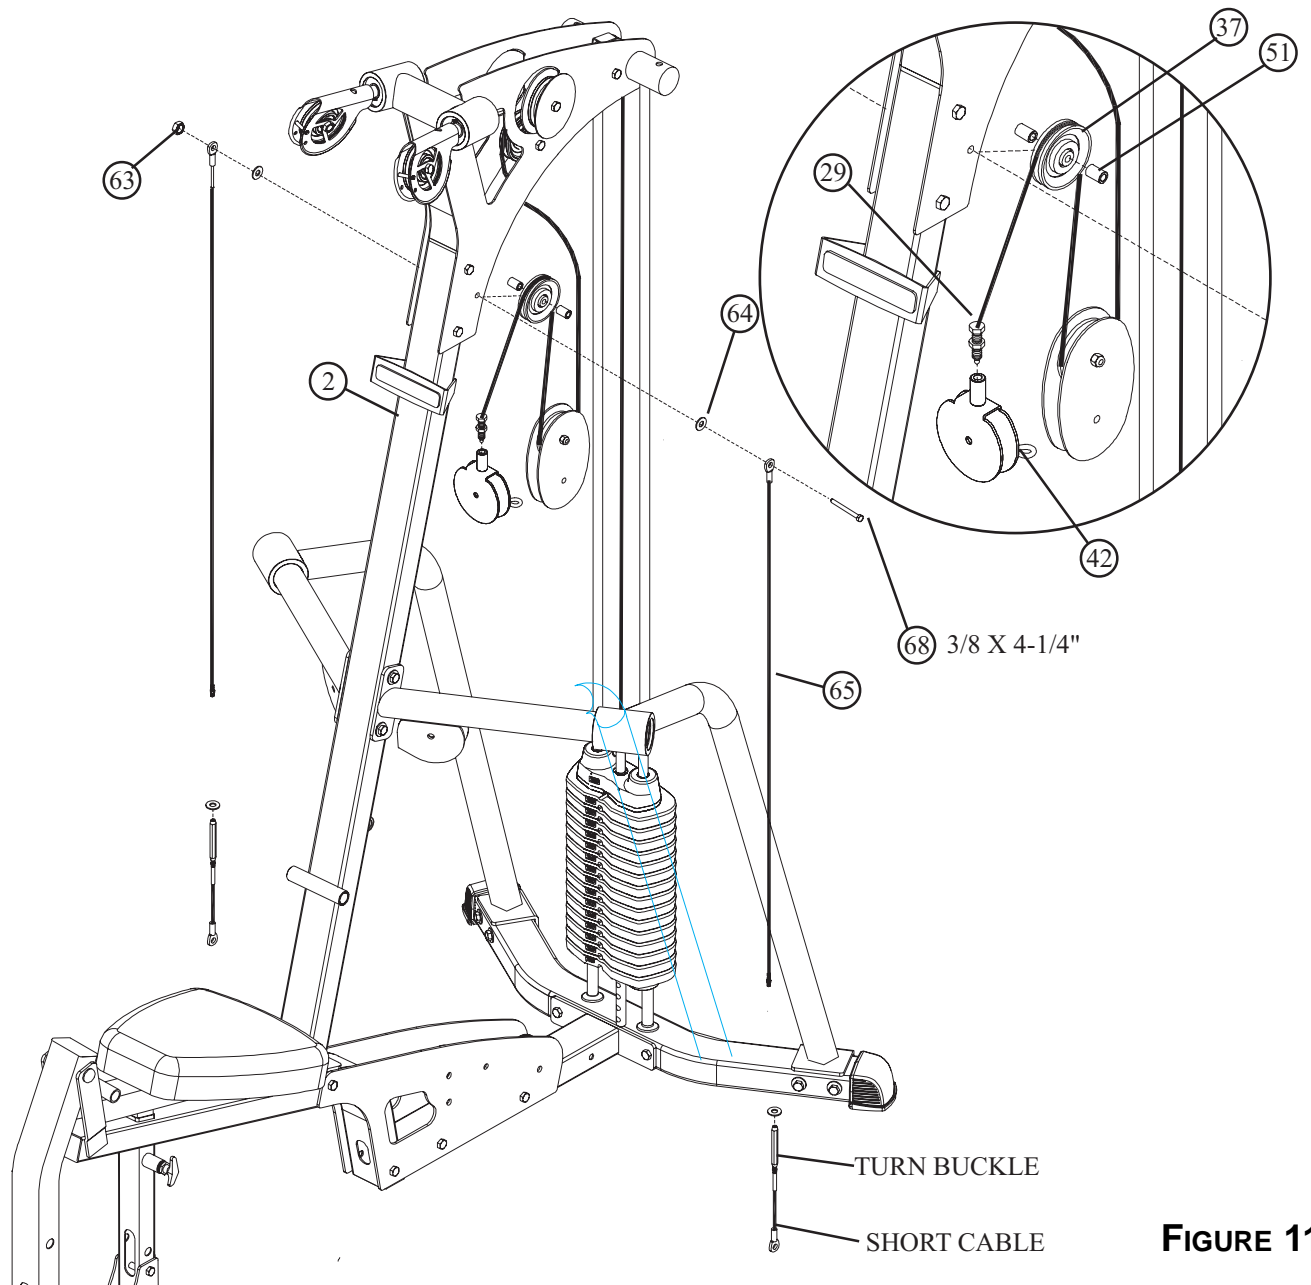

FIGURE 11
- Loop the WEIGHT STACK CABLE (29) around one 3-1/2" PULLEY (37).
- Assemble the 3-1/2" PULLEY (37) with the WEIGHT STACK CABLE (29) around it to the RIGHT and LEFT BOOM PLATES (14 & 15) using one 3/8 x 4-1/4" SILVER BOLT (68), two 3/8" FLAT WASHERS (64), two GUIDE CABLES (65), two 3/8 x 1" SPACERS (51) and one 3/8" SILVER LOCK NUT (63). See Figure 11.
- Screw the short threaded end of the WEIGHT STACK CABLE (29) into the end of the GUIDE BRACKET (42). See Figure 11.
- Disassemble the Short Cables and the Turnbuckles on the ends of the GUIDE CABLES (65) as shown in Figure 11. Set these pieces aside. The Guide Cables will be reassembled later.